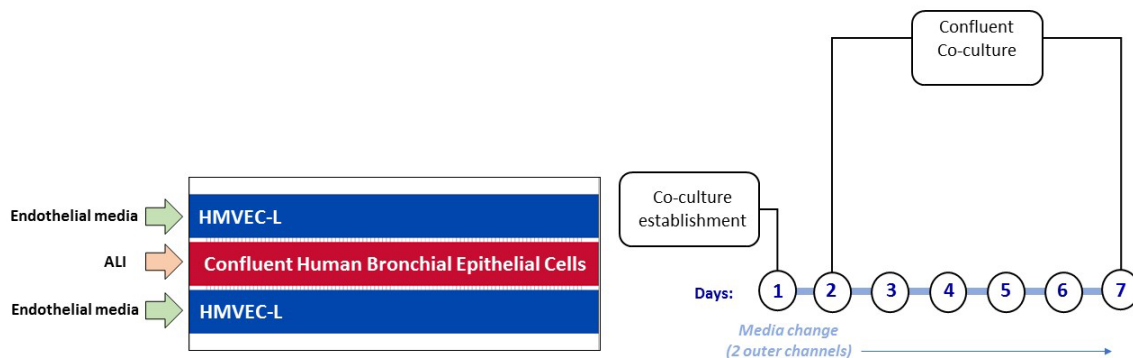

Figure 1. Illustration of the maintenance schedule for the lung ALI co-culture.
1. Prepare **two** 1-mL syringes filled with endothelial cell complete medium **per device**. The 2 outer channels will be flushed with media while the HBE cells receive air (**Figure 1**).